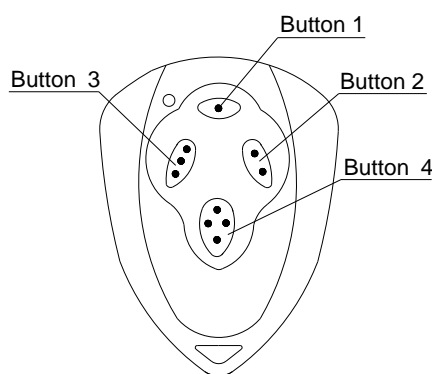

Fig.12
- **Adding extra remote controls (learn):** Press the button 'LEARN' about 1 second(See Fig.12 terminal 9) on the control board, release the button till the 'LED2' turns on, then press the same remote control button which you want to use twice, the 'LED2' will flash several times and then turn off, The learning process is finished.
- The remote control works in three channel mode. See Fig.12. Button 1 - open the gate, button 2-close the gate, button 3- stop the gate, button 4- pedestrian mode